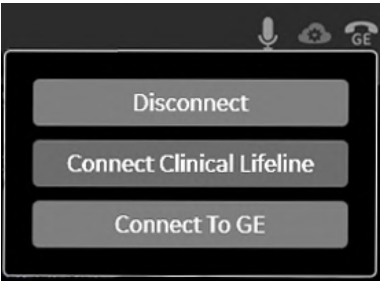

Figure 7-11: Connect Clinical Lifeline
- 4. Select **Connect Clinical Lifeline** (see: Figure 7-11 below). This activates “Disruptive Mode” and “VCO” for the application OLC to quickly assist the customer.
Move the cursor over the GE icon to show trackball functions • Contact: Section 7.2 "Request for Service (RFS)" on page 7-6 • Configuration: Section 3.13.6 "RSvP Agent Configuration" on page 3-82 • Menu: Displays the Remote Access menu Figure 7-11 on page 7-12